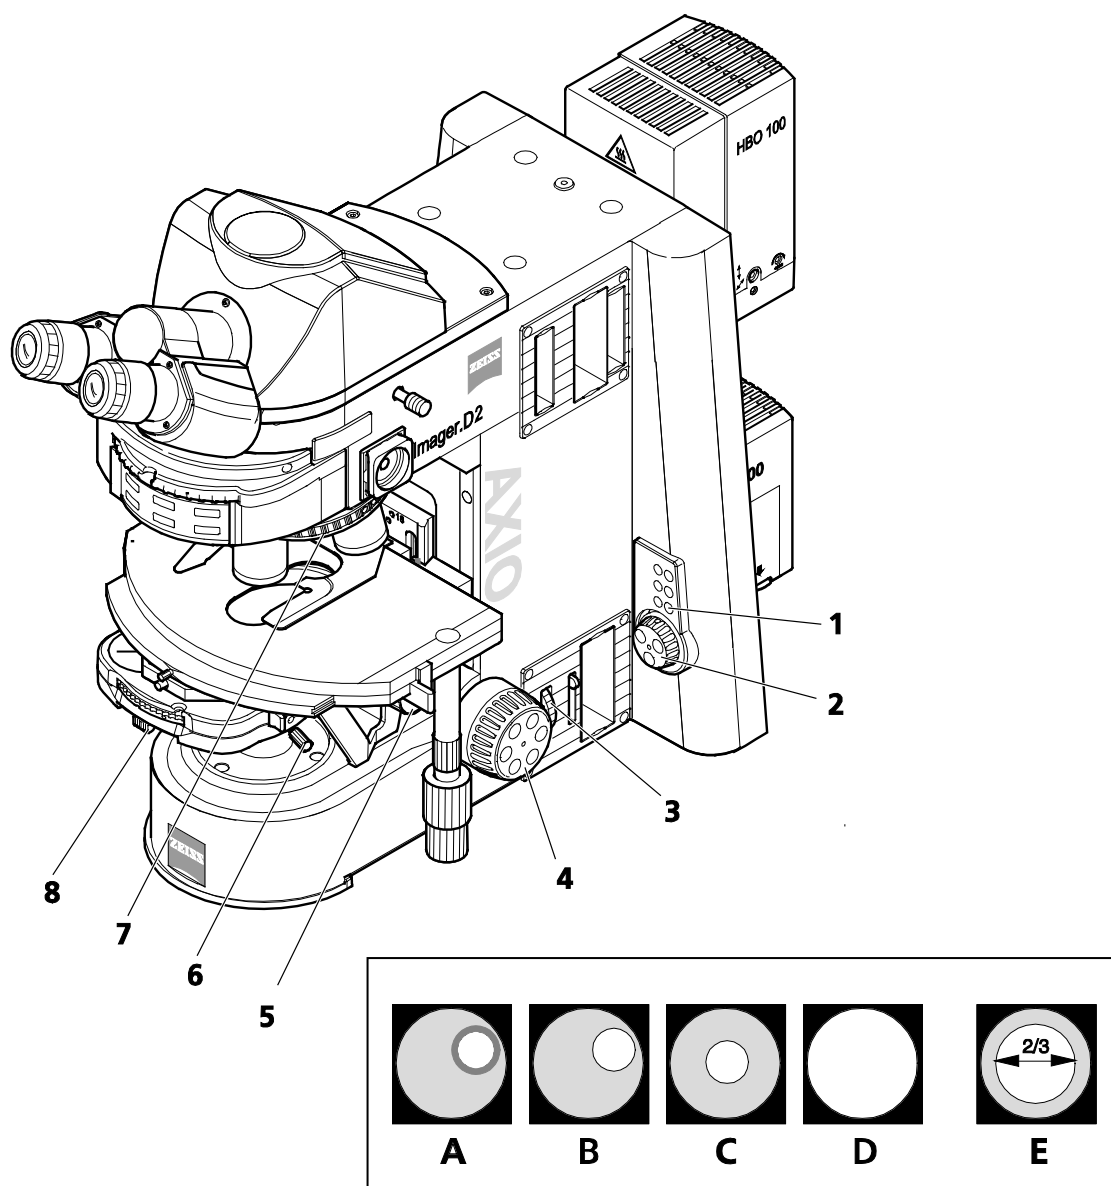
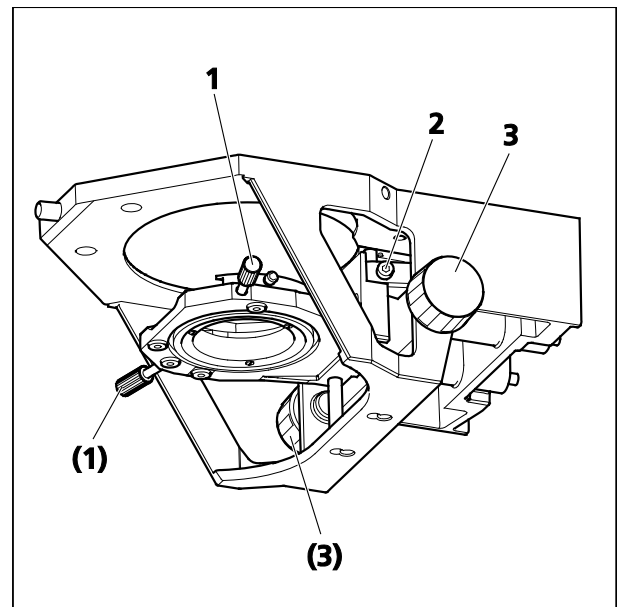

Fig. 191 Microscope settings on the Axio Imager 2 for transmitted light - brightfield
Fig. 192 **Setting the height stop on the condenser carrier**
(2) Instrument equipment
- For the use of the achromatic-aplanatic universal condenser 0.9 H/0.8-0.9 DF, refer to Section 4.12.2 (4).
(3) Setting transmitted-light brightfield according to KÖHLER
- Turn voltage control (Fig. 191/2) on the microscope base to adjust the image brightness. If the transmitted-light shutter is closed (indicator LED not lit), open it by means of button (Fig. 191/1).
- Swivel in the front lens of the condenser (for objectives $\geq 10\times$) and use the vertical control of the condenser (Fig. 191/5 or Fig. 192/3) to move it up to the upper stop. The stop must have been set in such a manner that the specimen is not touched by the condenser (for information on setting the stop of the vertical condenser drive, refer to Section 4.12.1 (4)).
- Swivel in 10x objective (yellow ring, also refer to Section 2.5) on nosepiece (Fig. 191/7) and bring the specimen into sharp focus using the focusing drive (Fig. 191/4).
- Close luminous-field diaphragm (Fig. 191/3) until it becomes visible (not necessarily in focus) in the field of view (Fig. 191/A).
- Turn the vertical control of the condenser drive (Fig. 191/5 or Fig. 192/3) to lower the condenser until the edge of the luminous-field diaphragm appears in focus (Fig. 191/B).
- Use both centering screws (Fig. 191/6 or Fig. 192/1) on the condenser carrier to center the luminous-field diaphragm image (Fig. 191/C). Then, open the diaphragm until its edge just disappears from the field of view (Fig. 191/D).
- To adjust the aperture diaphragm (contrast), remove one eyepiece from the tube and look through the tube with the naked eye. Adjust the aperture diaphragm (Fig. 191/8) to approx. $\frac{2}{3}$... $\frac{4}{5}$ of the diameter of the exit pupils of the objectives (Fig. 191/E). In most applications, this aperture diaphragm setting provides optimum contrast at almost ideal resolution, and is therefore the best compromise for the human eye.
(4) Setting the height stop on the condenser carrier
- Loosen the fastening screw of the height stop (Fig. 192/2) using an SW 3 ball-headed screwdriver.
- Close the luminous-field diaphragm and focus it by turning the vertical control (Fig. 192/3) of the condenser.
- Tighten fastening screw (Fig. 192/2) of the height stop.